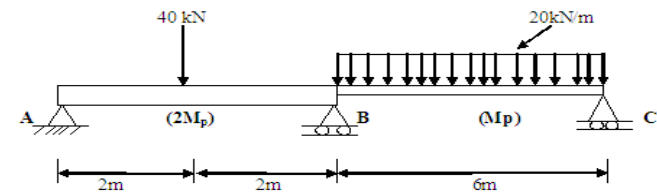

Fig.8
7. (a) Determine the plastic moment capacity for the continuous beam shown in Fig.8. The loads provided are working loads. (Take  $\lambda_s = 1.5$ ).